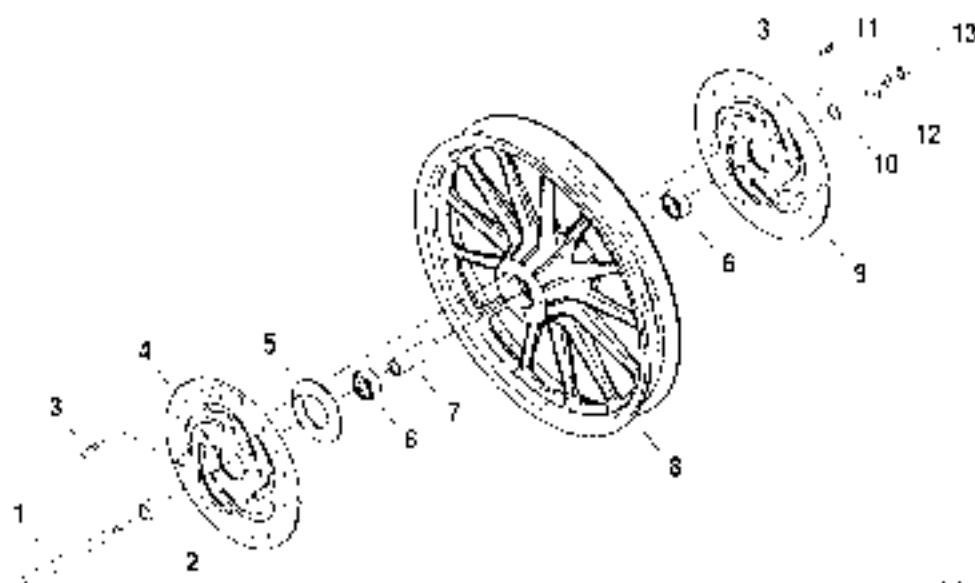
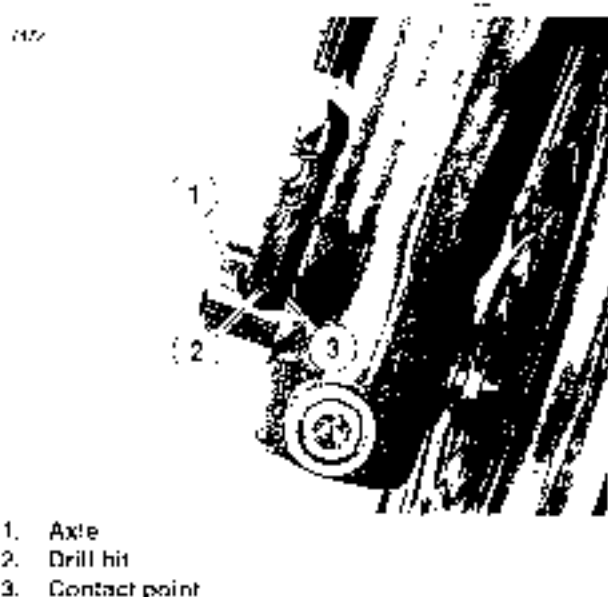

Figure 2-6 Cast Front Wheel
Figure 2-9. Dual Brake Disc Alignment
1. See Figure 2-6. If necessary, install brake disc(s) (4, FXDX, FXDXT only), (9) and/or hub plate (5) in their original positions. Verify that brake disc(s) is clean. Tighten fasteners to 16-24 ft-lbs (21.7-32.5 Nm).
- a. On left side of wheel, install five new screws (3) to attach left brake disc (9).
- b. On right side of wheel, install five new screws (3) to attach right brake disc (4, FXDX, FXDXT only) or hub plate (5, FXD only).
2. See Figure 2-6. Place wheel into front fork and install axle. Verify that axle spacers (1) on right and left sides are properly installed.
4. If servicing a vehicle with a single front brake caliper, advance to the next step. On models with dual front brakes, align calipers to brake discs. See Figure 2-9.
- b. Insert 7/16 in. drill bit (2) as far as it will go into hole in axle (1).
- c. Position fork leg against edge of drill bit. Contact point (3) must be lower edge of drill bit touching the edge of fork leg.
- a. See Figure 2-6. On **FXD** models, tighten the axle pinch bolt nuts to 20-30 ft-lbs (27.1-40.7 Nm).